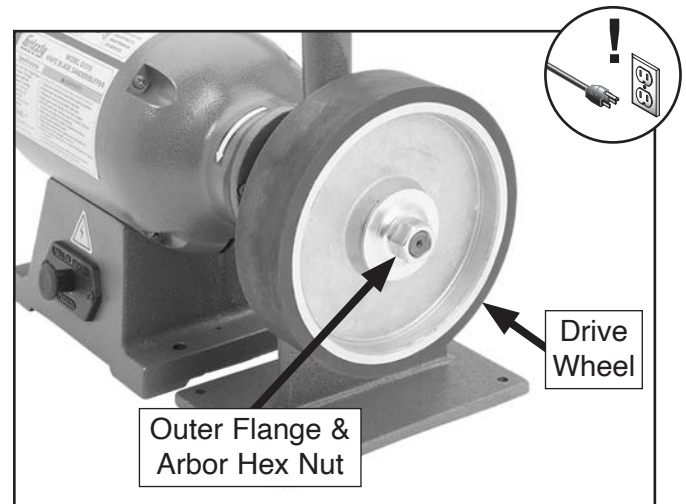

Figure 26. Location of outer flange and arbor hex nut.
3. Remove the arbor hex nut, outer flange, and the included 8" drive wheel (see **Figure 26**).